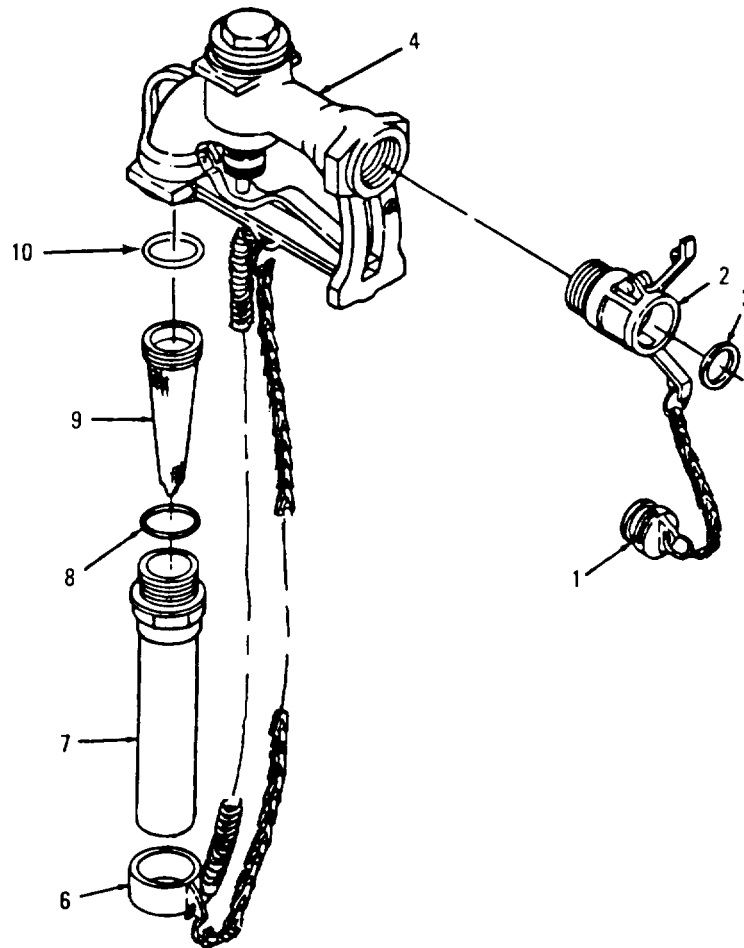

Figure 4-3. Nozzle Assembly
a. Disassembly. (Refer to Figure 4-3)
- (1) Remove dust plug (1) from coupler (2). Remove gasket (3) from coupler (2). Remove coupler (2) from body (4). Discard gasket (3).
- (2) Remove chain assembly (5) from cap (6) and body (4). Remove cap (6).
- (3) Remove spout (7), O-ring (8), nozzle strainer (9), and O-ring (10) from body (4). Discard O-rings (8 and 10).